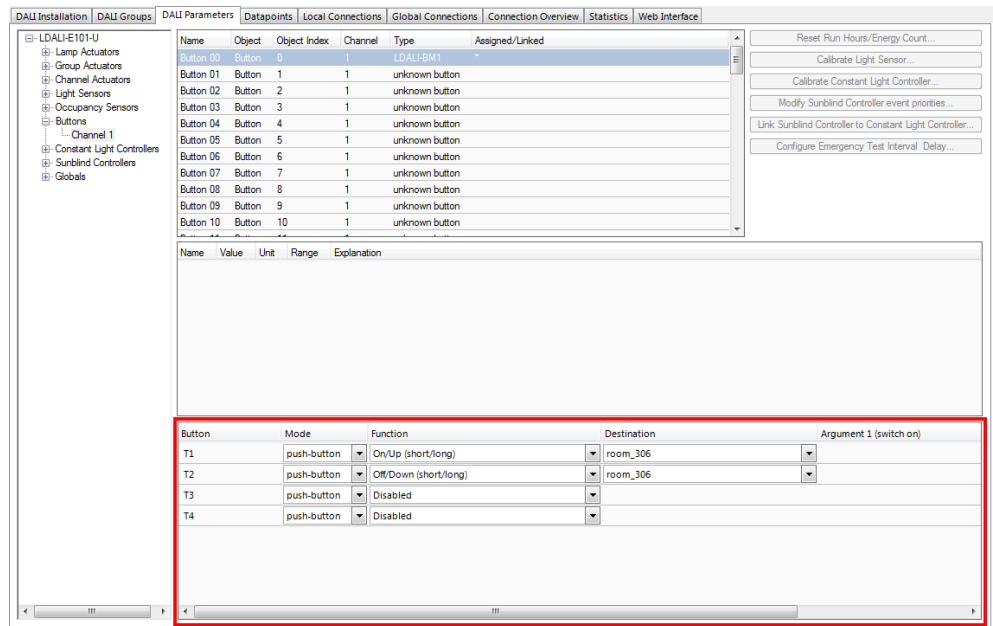

Figure 68: Parameterize DALI button functions.
1. Stay on the **DALI Parameters** tab and select the button object to which you have assigned your DALI button as shown in Figure 68.